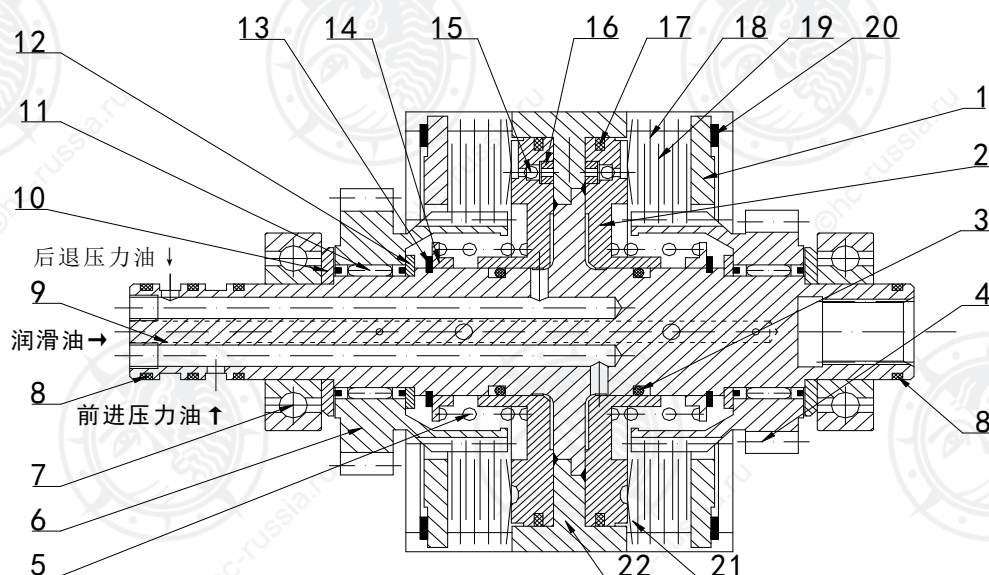

Fig 4-5 2.0t-3.8t hydrodynamic power clutch
5. Hydrodynamic clutch (Refer to fig.4-5)
YQX38 clutch assembly is used in 2.0t-3.8t and its structure drawing refers to fig.4-5. Clutch assembly is mainly composed of input shaft 9, forward gear 4, piston 2, clutch housing 22, disc 19, septa 18, backhaul spring 5, reverse gear 6 and sealing ring 8 etc. Left and right clutches are wet multi-disc hydraulic clutches, both equipped with interphase-installed five septa and discs, clutch housing is welded together with input shaft, and pressure oil is distributed to forward or backward clutch through control valve, thus realizes the forward and backward gear shifting. Piston ring 6 and input shaft O-ring 3 ensure the clutch work is in sealed. No oil pressure enters the clutch when in neutral, piston returns with the backhaul spring forces, thus separates the septa from the disc. When gear shifting, oil pressure works on the piston to combine the septa with the disc, and then transfers the torque converter power to forward gear or reverse gear by the friction.